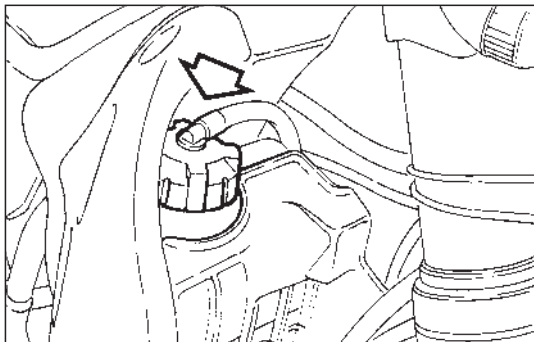

Fig. 65
- ◆ Remove the radiator filling plug (Fig. 65).